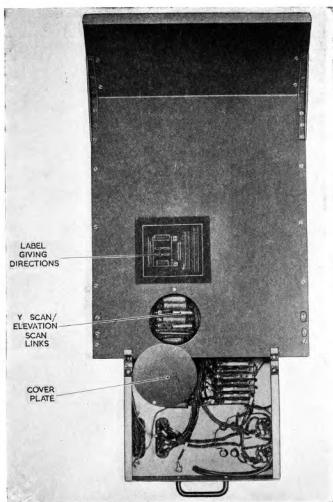

Fig. 41. Elevation scan links on console No. 3
**Elevation scan links on console No. 3 (fig. 41)**